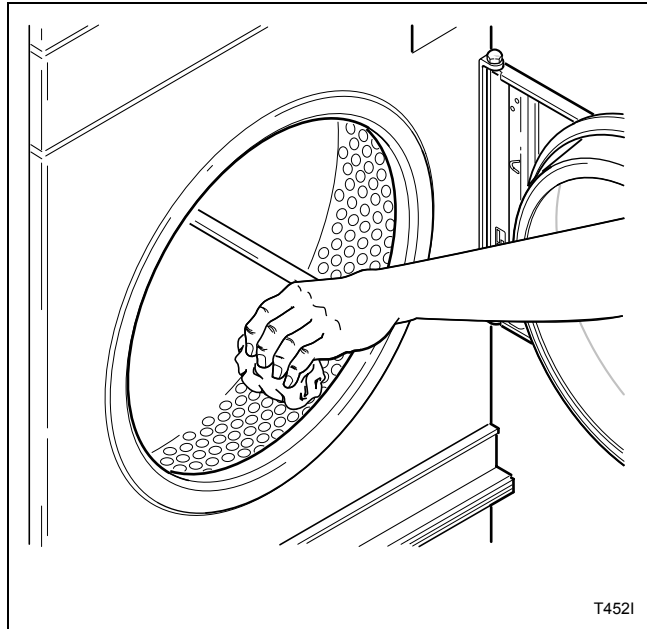

Figure 10
10. Wipe out the cylinder using an all-purpose cleaner or detergent and water solution. Refer to *Figure 10*.